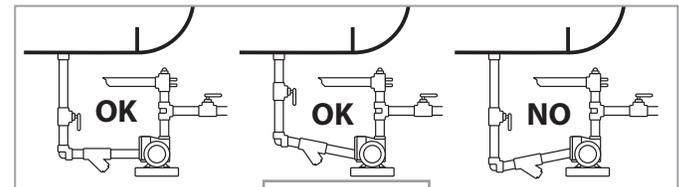

Figure 11
10. Long inlet lines should be avoided, even when they are so large that they have practically no friction loss. At night or in cold weather, the liquid will cool. Then, as the day warms or, as sunlight shines on the pipes, the cool liquid will be heated, causing some liquid to be vaporized. This vapor will decrease the pump's flow rate and increase the noise and vibration. To minimize this problem, inlet lines should be level or sloped upward toward the supply tank so vapors can flow back into the tank. **Figure 11**.